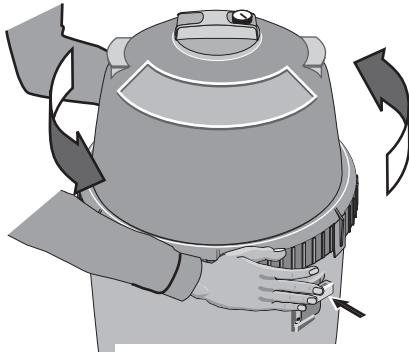

Figure 4 – Depress safety latch to unscrew Posi-Lok™ Ring.
- Press safety latch (below the ring) toward the tank to release it (see Figure 4).